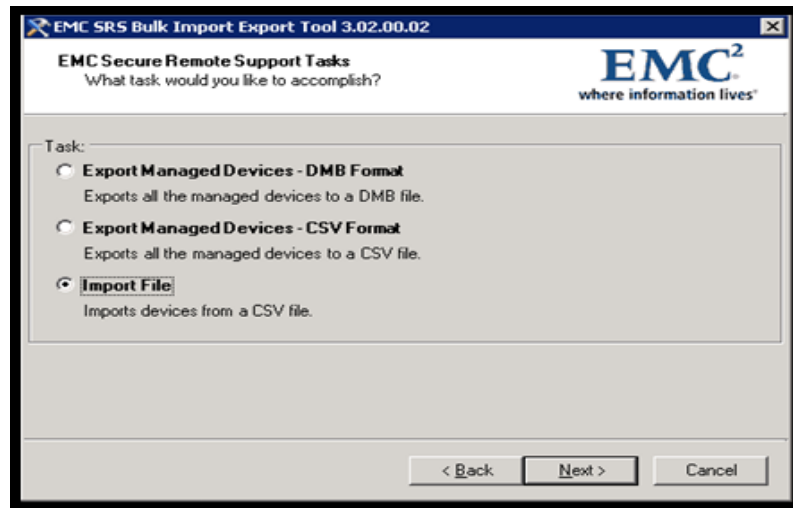

Figure 138 Import File
- c. This option, as shown in Figure 138 on page 109, permits the import of a CSV formatted file to generate as a DMB Request file (XML format) that can be used on the SRS2 Gateway or the SRSv3 as a DMB Request file (XML format). It can then be used to do a bulk deploy of devices to an SRS2 Gateway or to the SRSv3. You may now copy this file to any of the following: